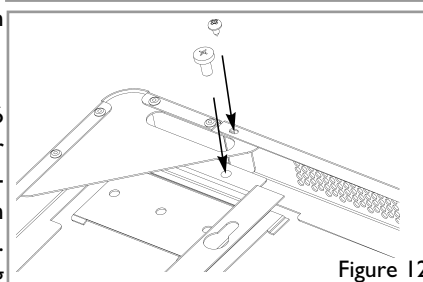

Figure 12
5. Secure the grille in position using two M6 screws and two no. 8 self tapping screws as shown in figure 12.